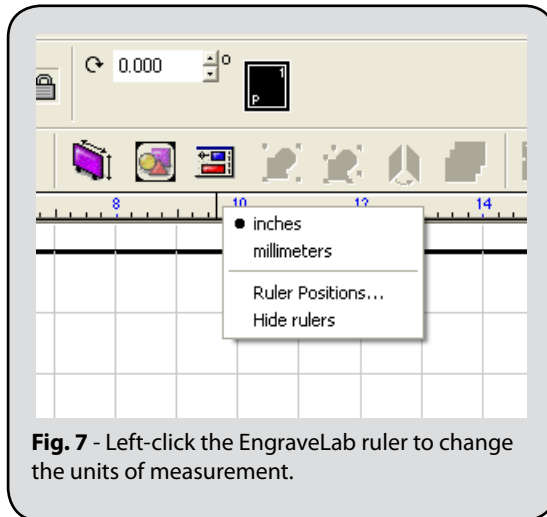

Fig. 7 - Left-click the EngraveLab ruler to change the units of measurement.
- ❑ Left-click the ruler and choose either **Inches** or **Millimeters** from the context menu (Fig. 7).